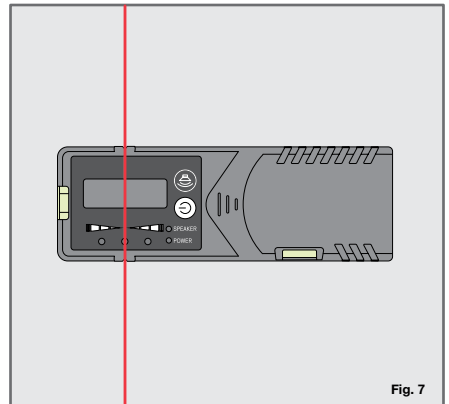

Fig. 7
- Hold the detector upright for horizontal beams (Fig. 6). Rotate the detector 90° for vertical beams (Fig. 7).